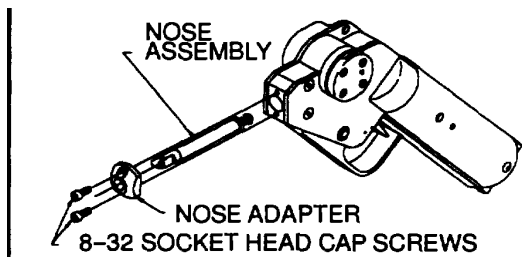

Figure 2-102. Removal of Safety Cable Tool Nose Assembly
(1) Remove the nose assembly by removing the two 8-32 socket head cap screws with a 9/64 inch hex wrench. (See figure 2-102).